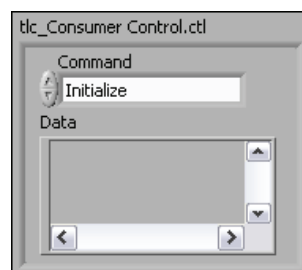

Figure 6-2. Variant and Type Definition Enumerated Control Cluster
- ☐ Change the label of the variant to **Data**. Figure 6-2 shows the resulting cluster.